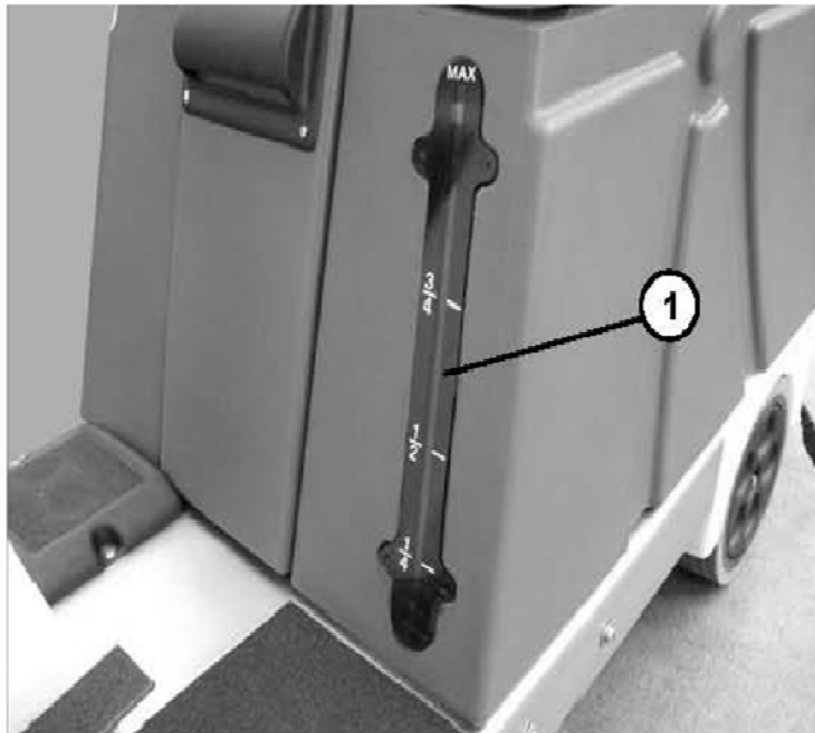

Figure 10-5
3. Operating carefully, using a sharp knife, remove the dipstick (1, **Figure 10-5**) to be replaced.